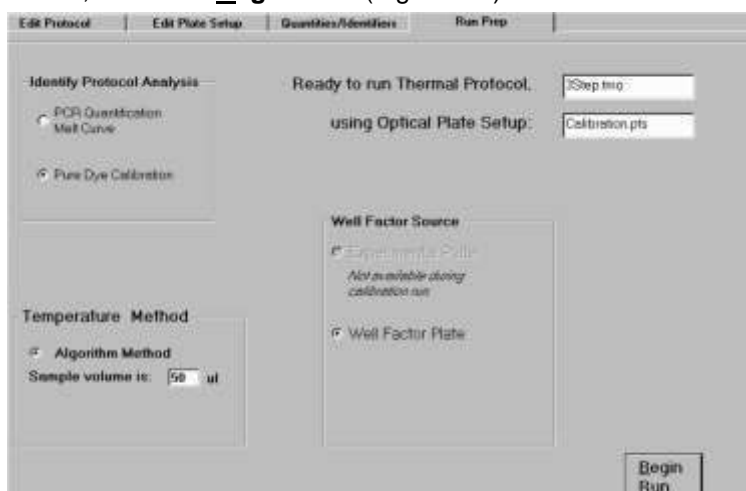

Fig. 2.1. Run prep tab.
8. In the **Run Prep** tab, confirm that the desired protocol and plate setup files are selected. Enter the reaction volume. Indicate the type of protocol (PCR Quantification/Melt Curve or Pure Dye Calibration) and the Well Factor Source, then click **Begin Run**. (Figure 2.1)
The better and easier source of well factors is the actual experimental plate. Well factors collected from the experimental plate are called **dynamic well factors**. The only requirement for using dynamic well factors is that *each monitored well must contain the same composition of fluorophores*. Within each dye layer the fluorophore must be present at the same concentration, however, all dye layers need not have the same concentration. If all the wells on a plate have, for example, 50 nM fluorescein, 100 nM HEX, 125 nM Texas Red and 200 nM Cy5, you can use dynamic well factors because the fluorophore composition is the same in every well. If some of the wells have 100 nM fluorescein and others have 200 nM fluorescein, then you cannot use dynamic well factors and you must use **external well factors**. Collection of dynamic well factors is a completely automated process initiated by clicking the Experimental Plate radio button in the **Run Prep** screen ( see Figure 2.1).